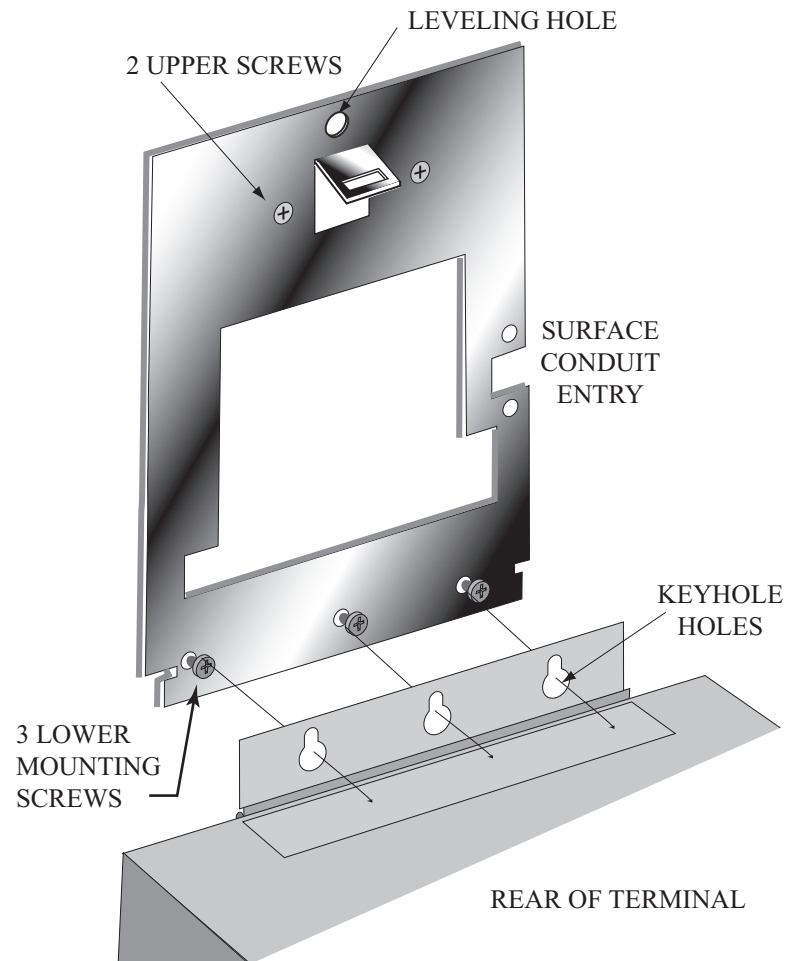

Figure 12-3: Attaching the HandPunch to the Wall Plate
3. At the base of the HandPunch is a piano hinge with three keyhole shaped slots that correspond with the three lower mounting screws. Align and hang the HandPunch from the three lower mounting screws (see Figure 12-3 on page page 49).